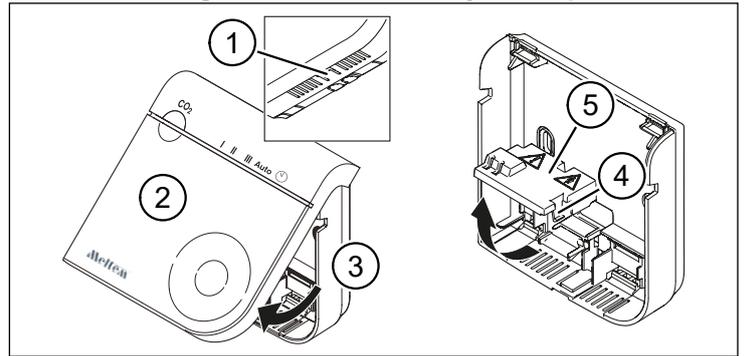

Fig. 2: Removing the cover and safety cover plate
- ▶ Press the tab (item 1 in Fig. 2) on the underside of the housing (item 3 in Fig. 2) and pull the cover (item 2 in Fig. 2) away from the housing.
- ▶ Use a small flat-bladed screwdriver to press the latch (item 4 in Fig. 2) and lift up the safety cover plate (item 5 in Fig. 2).
- ▶ Lower the safety cover plate (item 5 in Fig. 2) until you hear it latch into place.